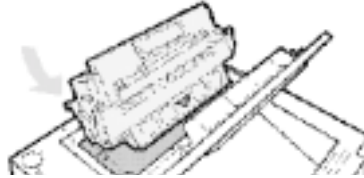

Figure 21. Sliding in the Cartridge
4. Position the cartridge as shown, with the arrow pointing into the printer. Slide the cartridge into the printer as far as it will go as shown in Figure 21 and close the top cover.